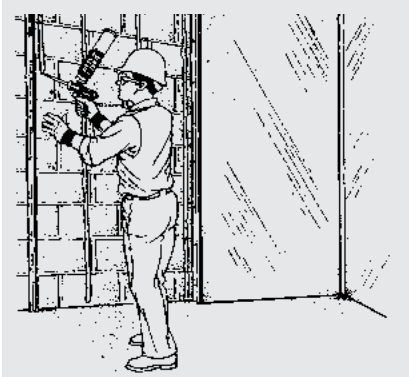

Figure 7
4. Apply beads of DuPont™ Great Stuff Pro™ Construction Adhesive or appropriate construction-grade adhesive to the wall every 16" between PVC base strips (Figure 7).